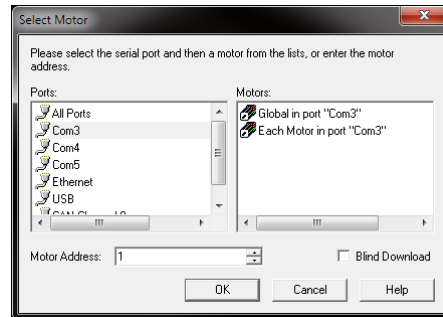

Figure 22: SMI Select Motor Dialog
- 17) You will now be shown the **Select Motor** dialog. Select the serial port you are using in the **Ports** list and then enter the number **1** in the **Motor Address** box as shown in Figure 22.